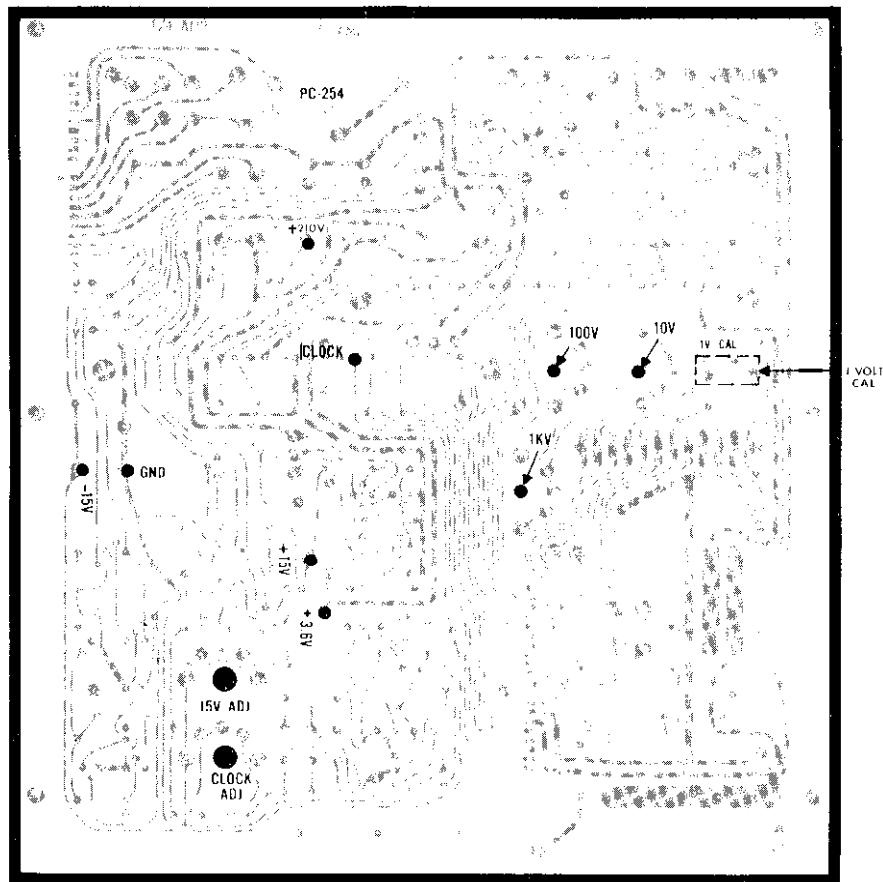

FIGURE 16. Calibration Controls.
2. Power Supply Checkout. All the power supply voltages can be measured at test points on printed circuit board PC-254 as shown in Figure 16.
1. Power Supply. The +15V supply should be adjusted for +15.00V dc $\pm 0.050V$ using potentiometer R209 on PC-254 as shown in Figure 16. The -15V and +3.6V supplies cannot be adjusted since the +15V supply is used as a reference voltage.
2. Clock Frequency. Measure the clock frequency at the "CLOCK" test point on PC-254 as shown in Figure 16. The frequency should be adjusted for a nominal 10 kHz, ± 20 Hz using potentiometer R605 on PC-254 as shown in Figure 16.
3. Zero Adjust. Place a shorting wire across the Input Terminals (red and black). Connect voltmeter (A) to the analog OUTPUT (J103). Adjust the rear-panel ZERO Control (R505) for zero on the 1 mV range.
5. DC Balance. With voltmeter (A) connected to the OUTPUT adjust the OFFSET CURRENT ADJ Control (R733) for zero on the 1V range. The OUTPUT should be adjusted within ± 1 millivolt on the 1mV range and within ± 0.1 millivolt on the 1V range. Repeat the adjustments of R505 and R733 until the OUTPUT is within tolerance on both the 1 mV and 1V ranges simultaneously.